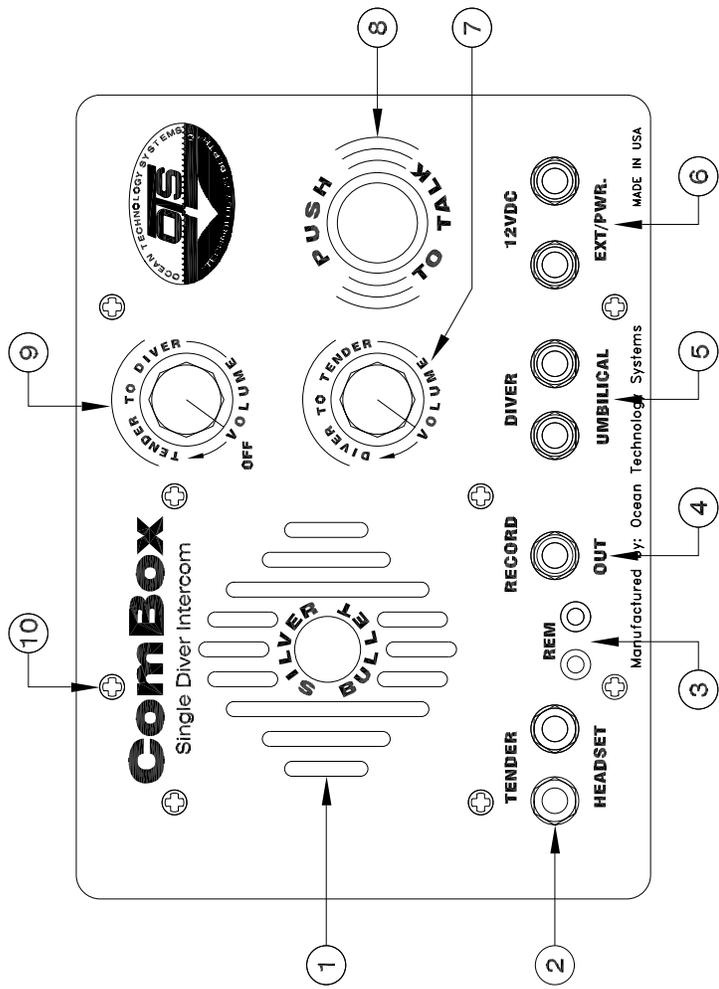
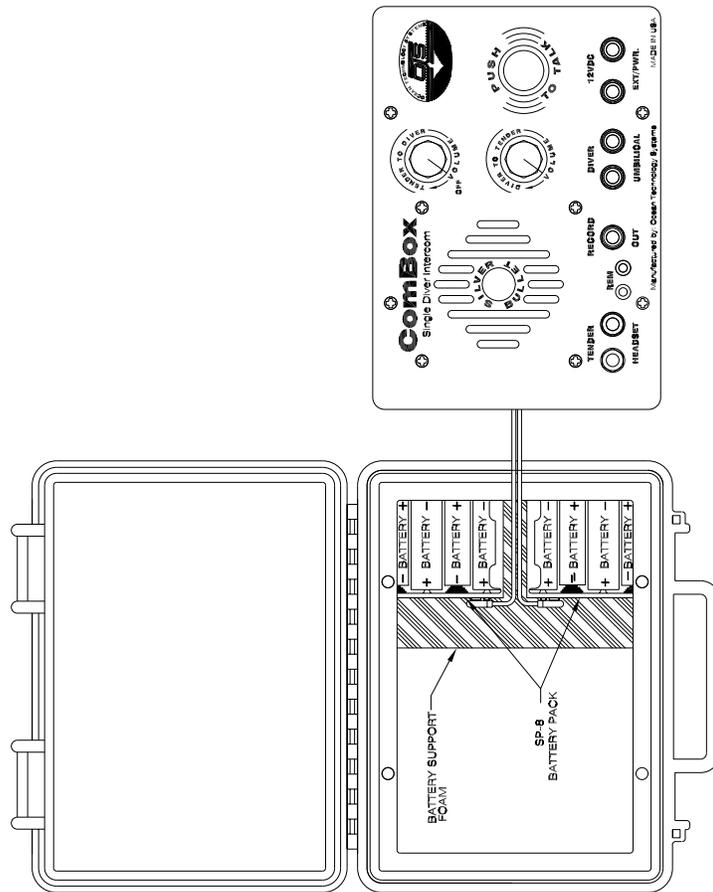

FIGURE 1
FIGURE 3
(See Figure 1)
2) Installation (Figure 3): To install the batteries, first loosen the four screws found on the front panel (Figure 1, #6). Carefully remove the front panel. If using AA batteries, connect the battery snaps to each 8-cell battery pack and install the packs into the foam holders. The (optional) NiMH batteries (RB-11) are installed the same way, but the foam between the batteries must be removed. When finished installing the batteries, replace the front panel, ensuring you have not pinched any wires. Tighten the front panel screws.
the U.S.) has black and red connectors on the ends of the wires. Attach these connectors to the 12VDC External Power connector on the front panel (Figure 1, #2). Connect the RC-18 charger to any 110-volt, 60-cycle power outlet and let it charge for no more than 14 hours. If using the RC-18i charger, use a 90-260-volt, 50/60-cycle outlet.
4) Alternate Power Source: The external receptacle (Figure 1, #2) provides an easy terminal for a marine or automotive 12-volt DC source. This terminal can also be used with any external power source providing 12 volts and a minimum of 3 amps capacity.